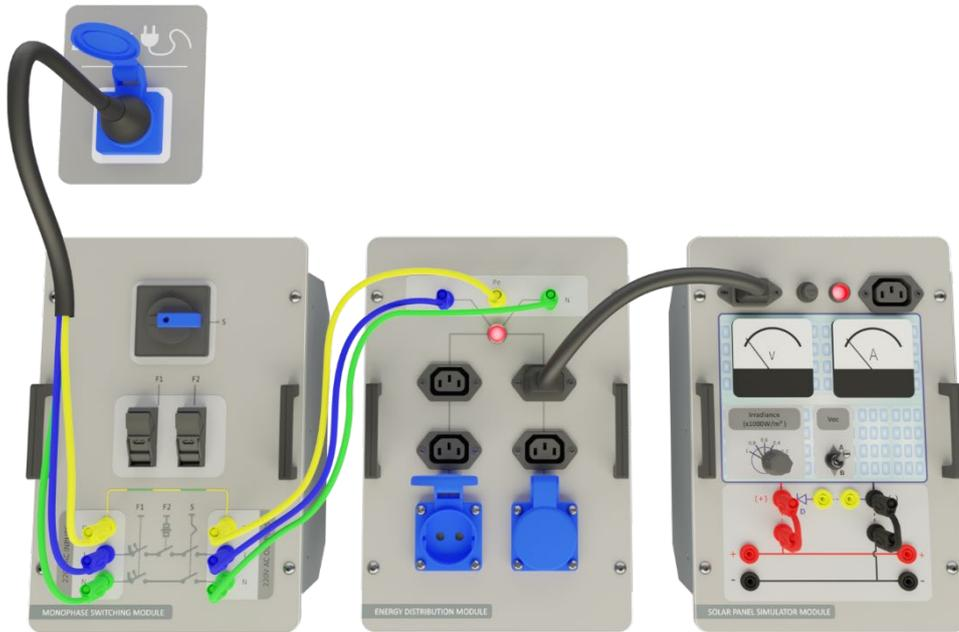

Figure-51. Installation Image of Solar Panel Examination of Solar Panel Simulator
3. The next step is to make the power connections to the Solar Panel Simulator Module and then install the experiment by making the connections using the banana jack cable as shown in Figure-51.